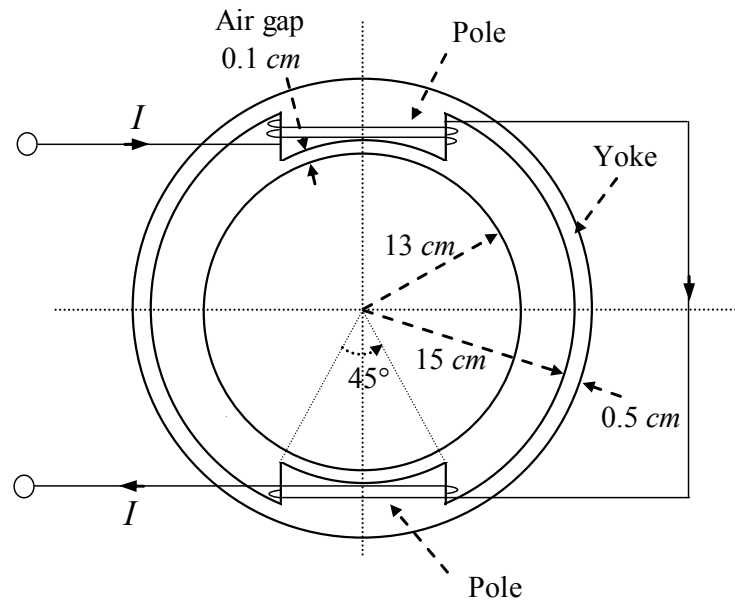
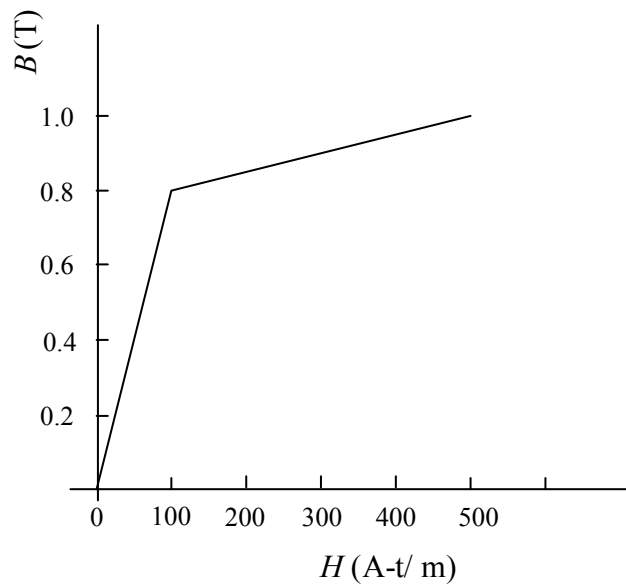

Figure 2: Simple Machine Core
Figure 3: Magnetization Curve for Machine Core.
4. The cross section of the magnetic circuit of a machine is shown in Fig. 2. The essential dimensions are given on the figure and the axial length or thickness of the machine is 20 cm, and each of the poles has a coil of 50 turns. The approximate magnetization (B-H) curve of the magnetic material is shown in Fig. 3. Neglect fringing effects.